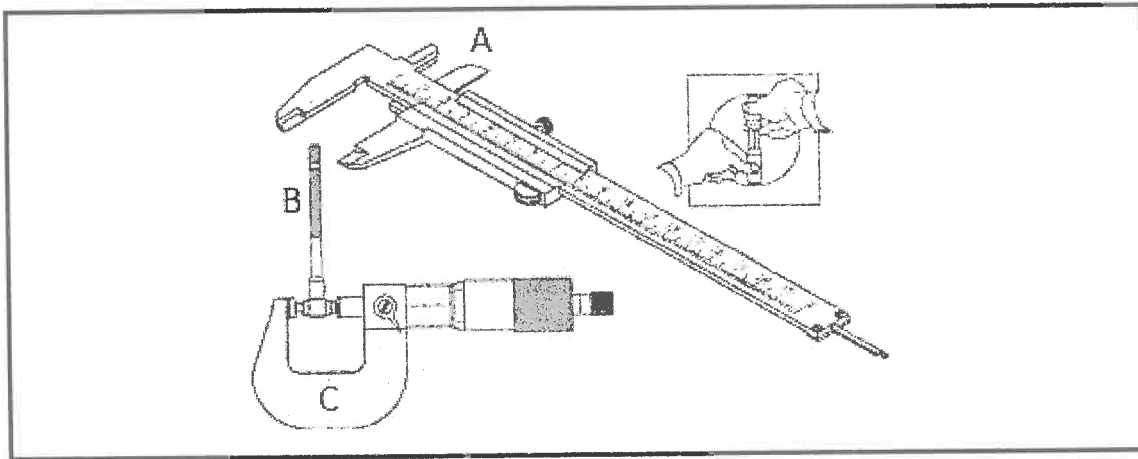

FIGURE 2
4.7 FIGURE 2 shows three precision-measuring instruments.